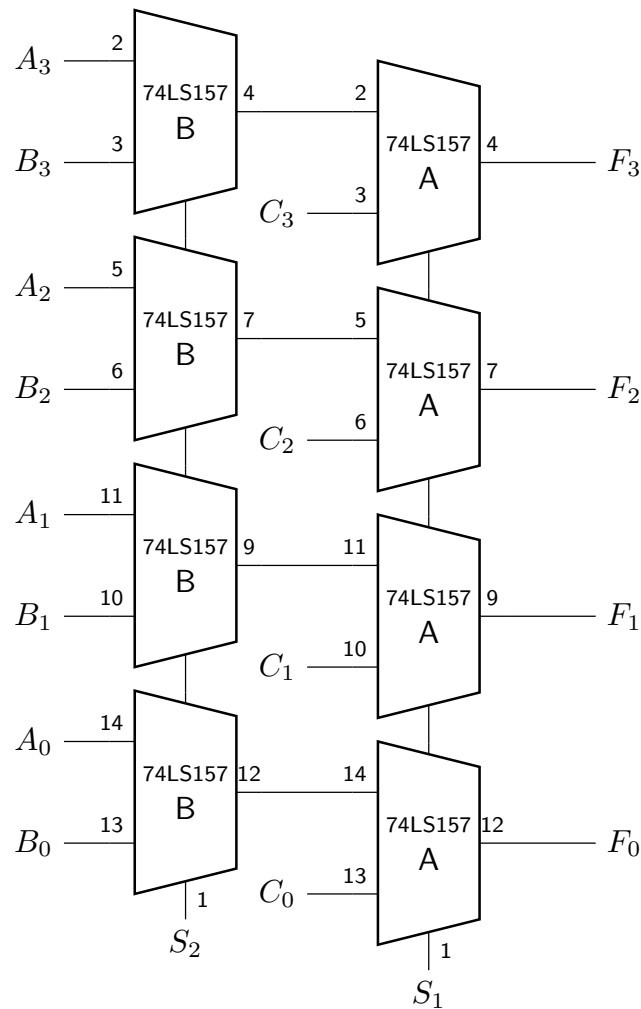

Figure 6: Implementing a 4-bit 3-way selector using two 2x1 MUXes
1. Using two ICs 74LS157, realise the circuit shown in Figure 6.